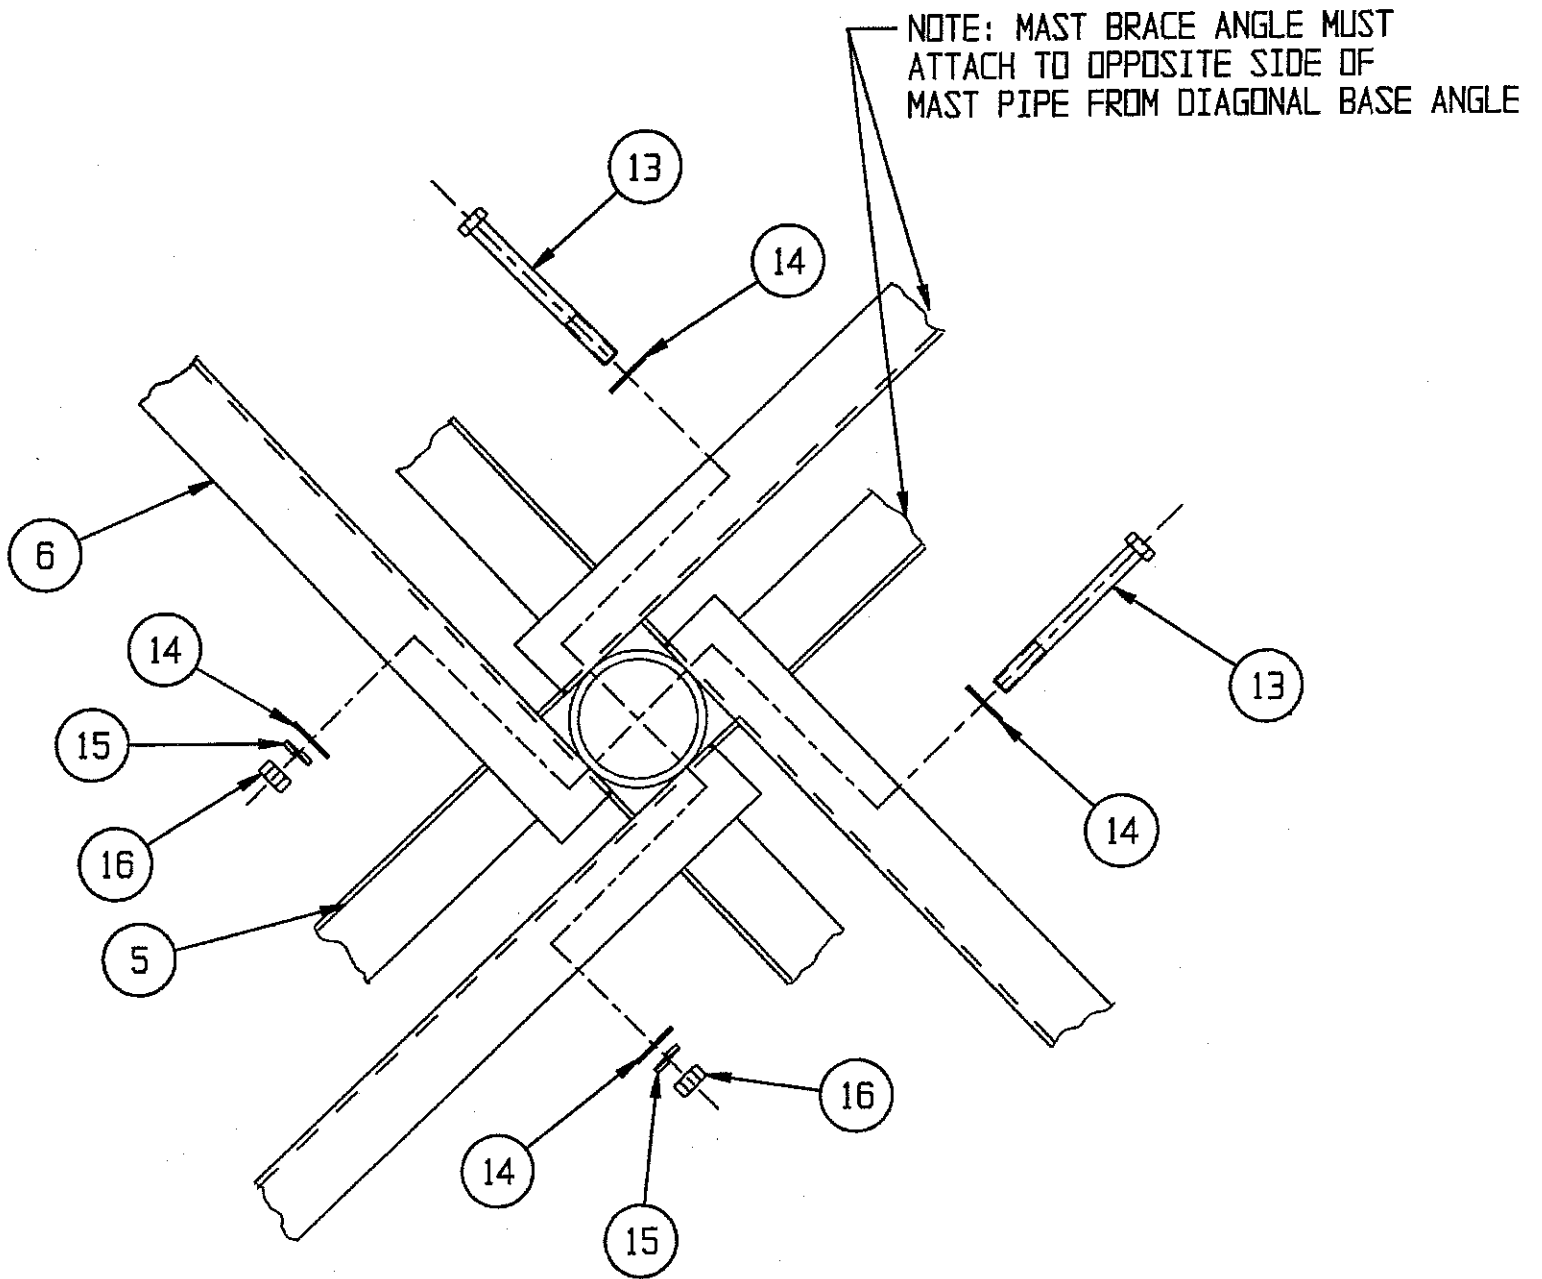

Figure 5
- STEP 6: Attach the (4) mast brace angles (item 6) to the mast pipe with (2) 1/2" X 5.00" bolts, (4) flatwashers, (2) lockwashers, and (2) hex nuts (items 13, 14, 15, & 16). Each brace must attach to the side of the mast pipe opposite its diagonal brace angle as shown in Figure 5. Snug only.